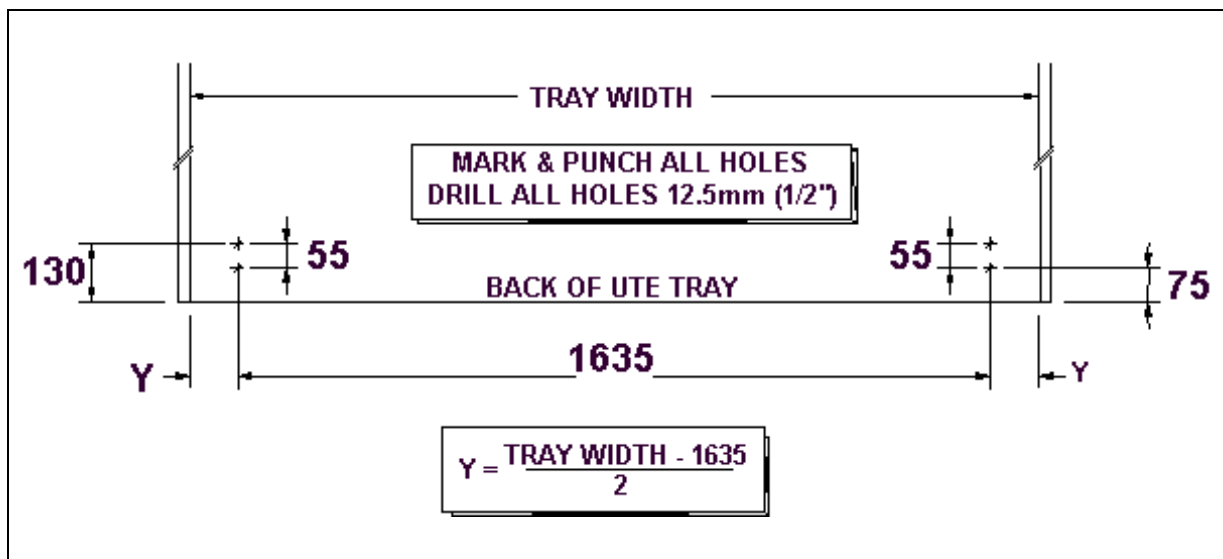

Figure 2 - Locating the LycoLoader
1. Mark and punch the holes as indicated in Figure 2 above.